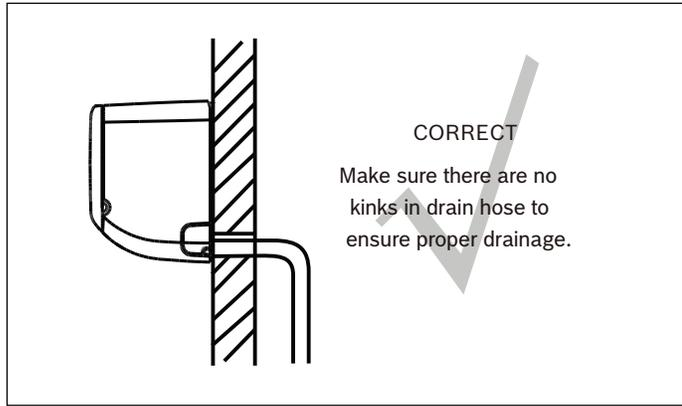

Figure 15
**i** Make sure to arrange the drain hose according to Fig. 15 & 16: